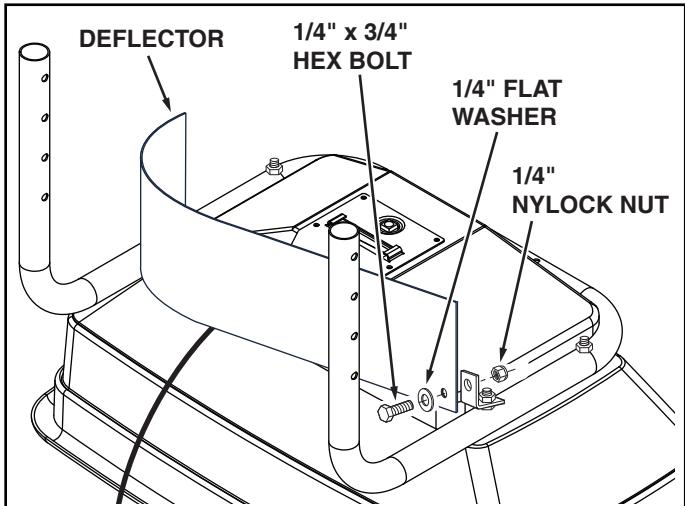

FIGURE 2
3. Fasten deflector to angle brackets using two 1/4" x 3/4" hex bolts, 1/4" flat washers and 1/4" nylock nuts. Allow angle brackets to swivel so deflector curves naturally between angle brackets and then **tighten all nuts**. See figure 2.